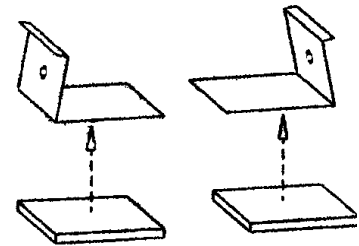

Figure 5. Attach Velcro
5. Attach one piece of Velcro to the bottom of each clamp bracket as shown in Figure 5